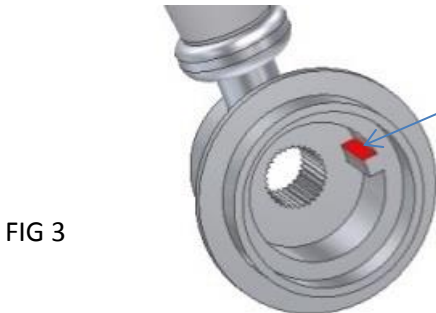
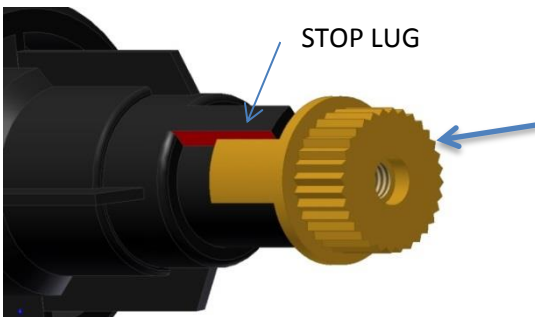

FIG 3
FIG 4
3. Replace the handle or brass stop ring with the lug (fig 3 or fig 4) against the cartridge lug so that the handle or brass stop cannot turn any further clockwise. This sets the flow off position.